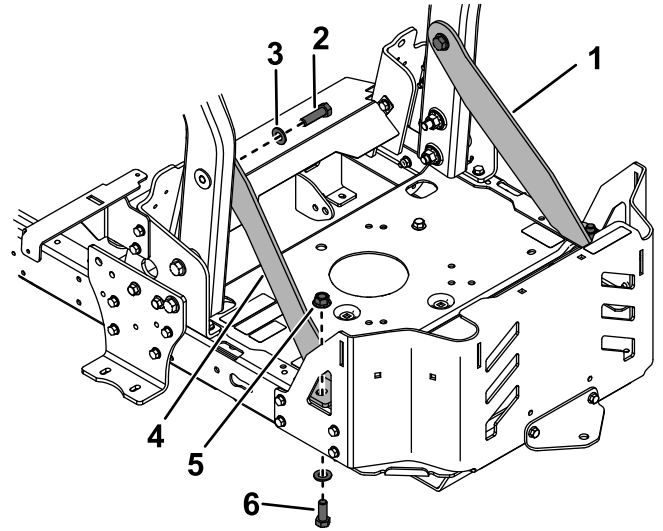

Figure 2
- Loosely install the left and right support brackets using 1 bolt (1/2 x 1-1/4 inches), 1 locknut (1/2 inch), 1 bolt (1/2 x 1-3/4 inches), and 1 washer for each bracket (Figure 2).